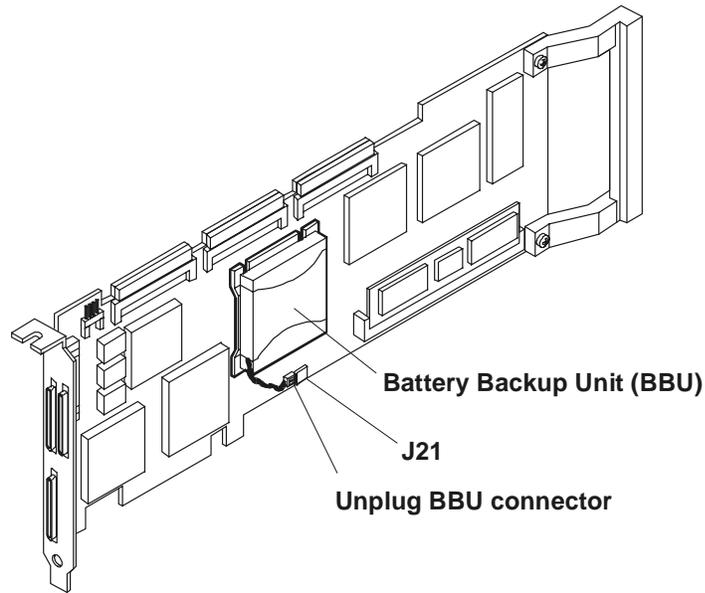

Figure 8-1. Unplug Battery Backup Unit on HP NetRAID-3Si Board
1. Turn off the system, unplug the power cord(s) from the system, open the HP Netserver panel or remove the HP Netserver cover, and disconnect the SCSI cables from the existing HP NetRAID adapter. Remove the existing adapter, and place it on a grounding mat or other antistatic surface. If you have removed any HP NetRAID adapter with a Battery Backup Unit (BBU), disconnect the BBU by unplugging the connector shown in Figures 8-1, 8-2, and 8-3.